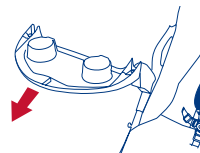

Fig. 10d
• **To remove the child tray:** Press the release button and rotate the tray 180 degrees and pull the tray until it is released (Fig. 10d).